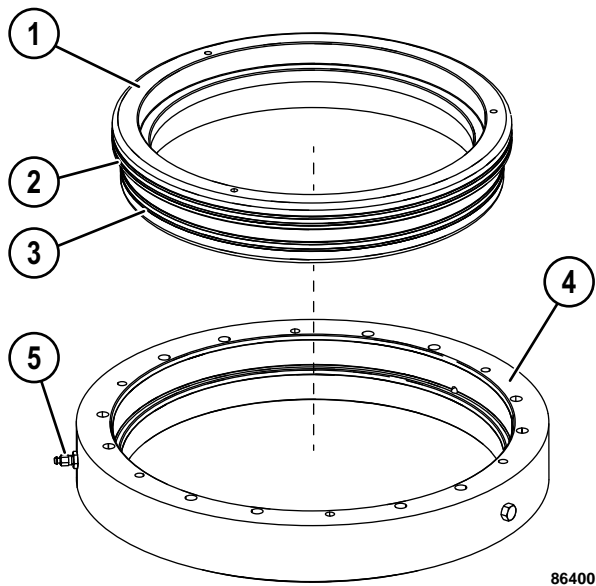

FIGURE 50-63. PARKING BRAKE DISASSEMBLY & ASSEMBLY
5. Remove piston (1, Figure 50-63) from piston housing (4). Remove and discard piston seals (2) and (3).
6. If necessary, remove bleed valve (5).